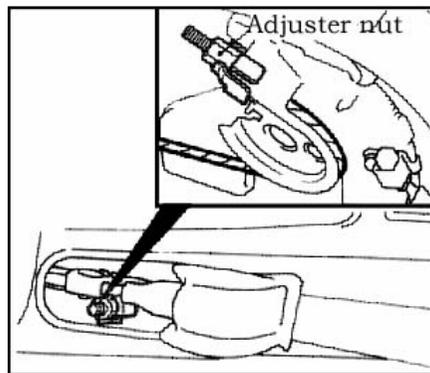

Fig. 16-49
(1) Loosen the adjusting nut to move it to the cable rod end so that the cable will be free.(see Fig.16-49).